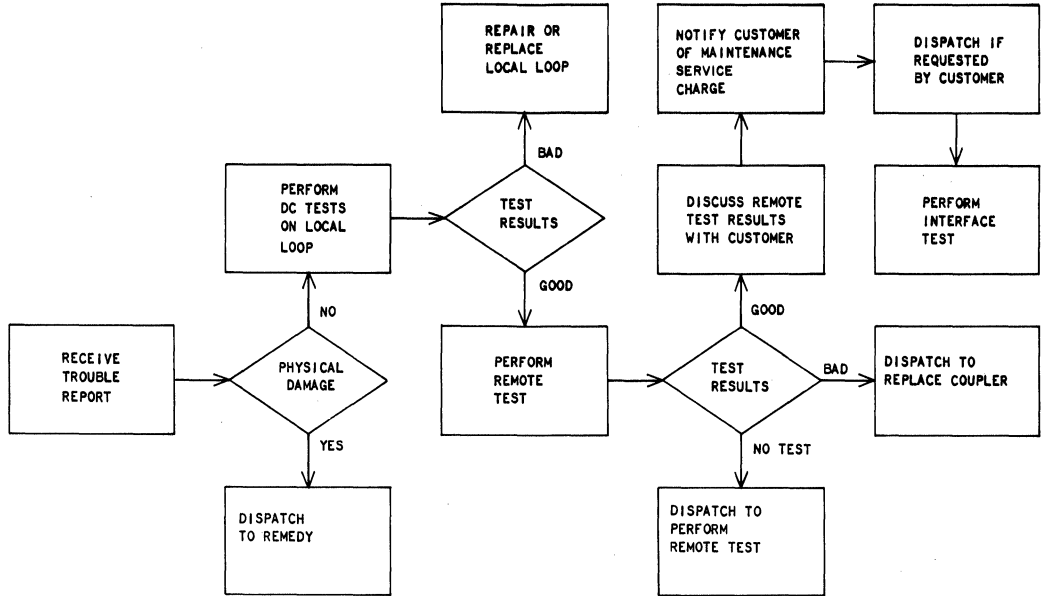
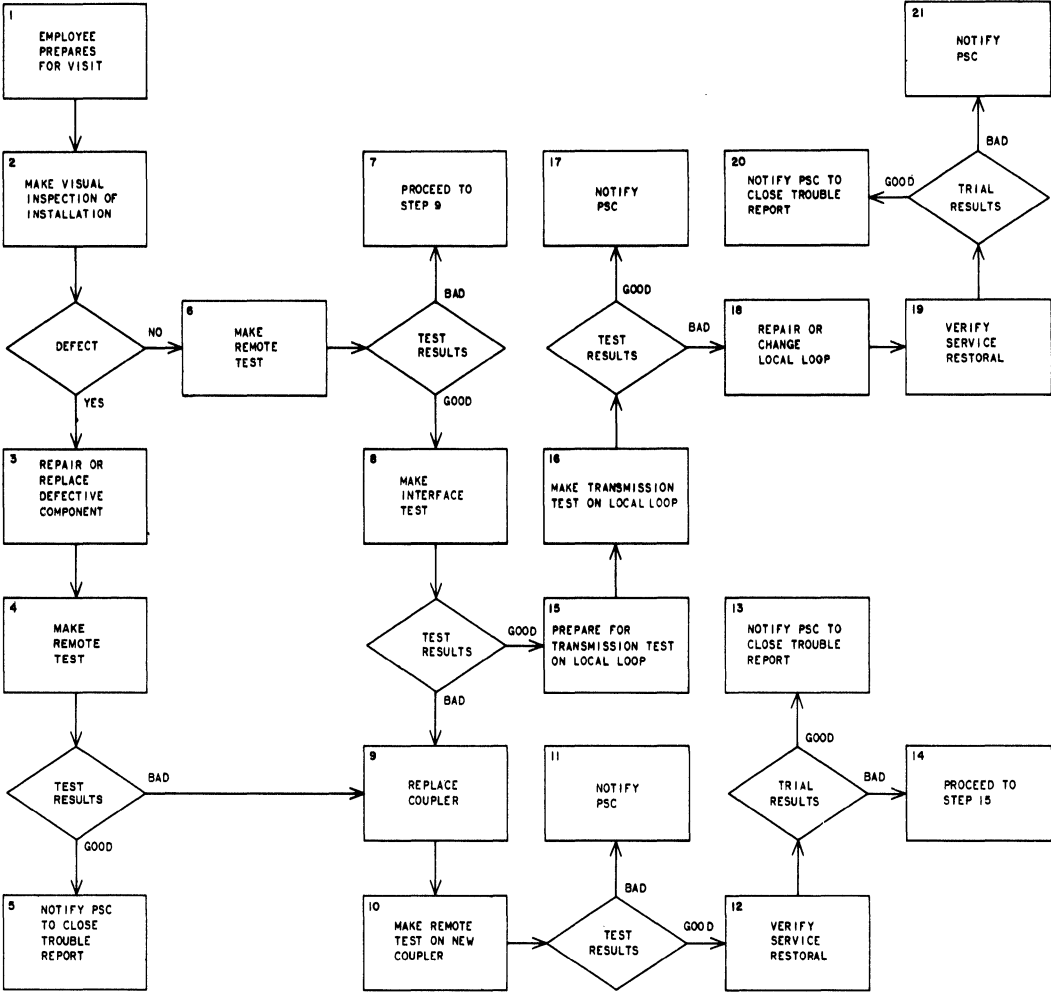

Fig. 13—Basic Activities Prior to Dispatching Employee
Fig. 14—Activities for Troubleshooting at a Coupler Station
trouble condition does exist and the most probable cause. Available tests (ie, normal dc loop test and remote test of coupler) should be performed to determine if a telco employee must be dispatched to customer premises. The conditions which could warrant a maintenance visit and the efforts which lead to each are shown in Fig. 13.
5.06 On a maintenance visit, perform the most likely necessary tests or evaluations to isolate and clear the trouble within the station as directed by the PSC. Begin with the steps shown in Fig. 13 when the test results and analysis received from the PSC lead to that particular activity. If a trouble report is not available or if the report is inconclusive, follow the suggested sequence of activities as illustrated in Fig. 14 and described in the following: